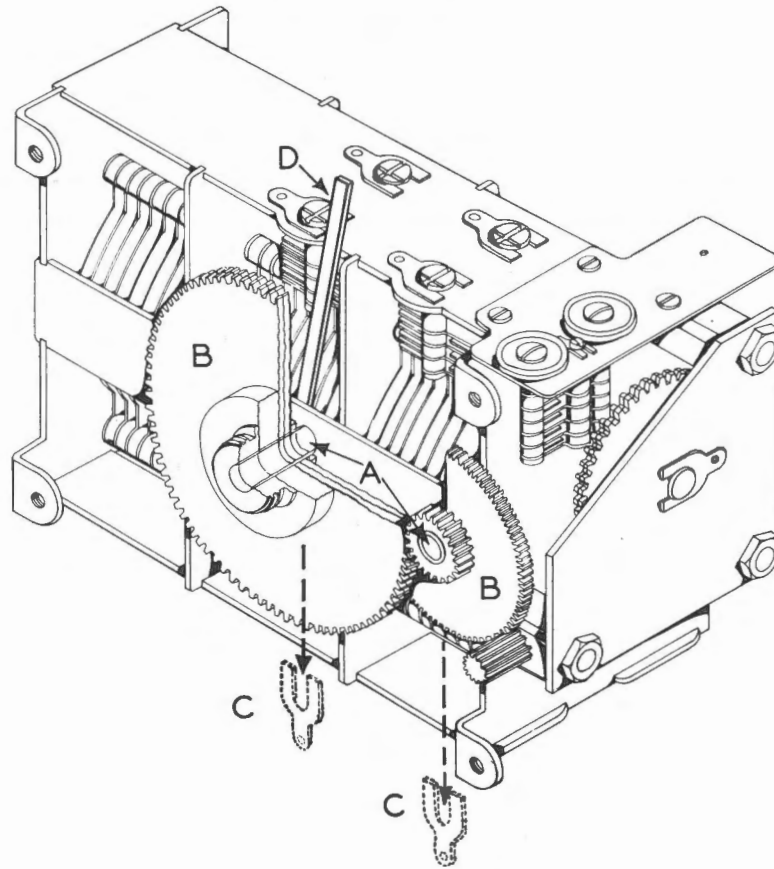

**Figure 8 — Front View of Receiver with Dial Removed
6. (FIG. 8) Remove the four screws (A) in front of the receiver to free the condenser. Save the screws which are to be used again for remounting the con-
7. (FIG. 8) Remove the condenser (C).